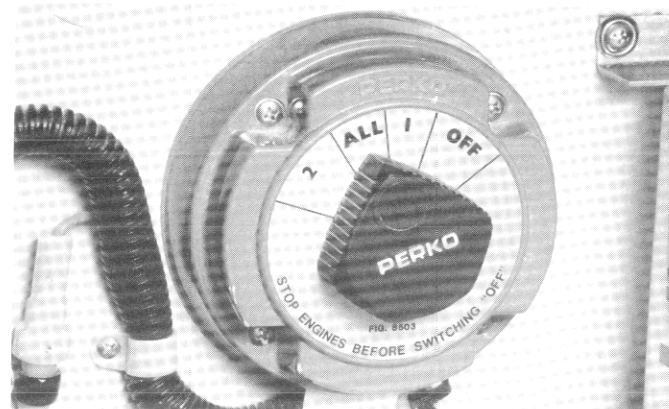

Figure 16
3. Put the battery main switch in the "On" position. See figure 16.